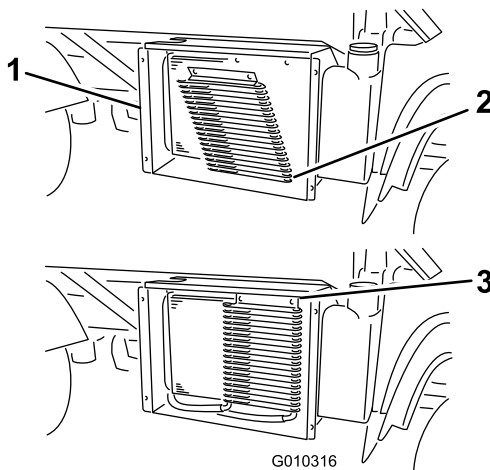

Figure 59
3. If so equipped, rotate the latches and pivot the oil cooler away from the radiator (Figure 59).